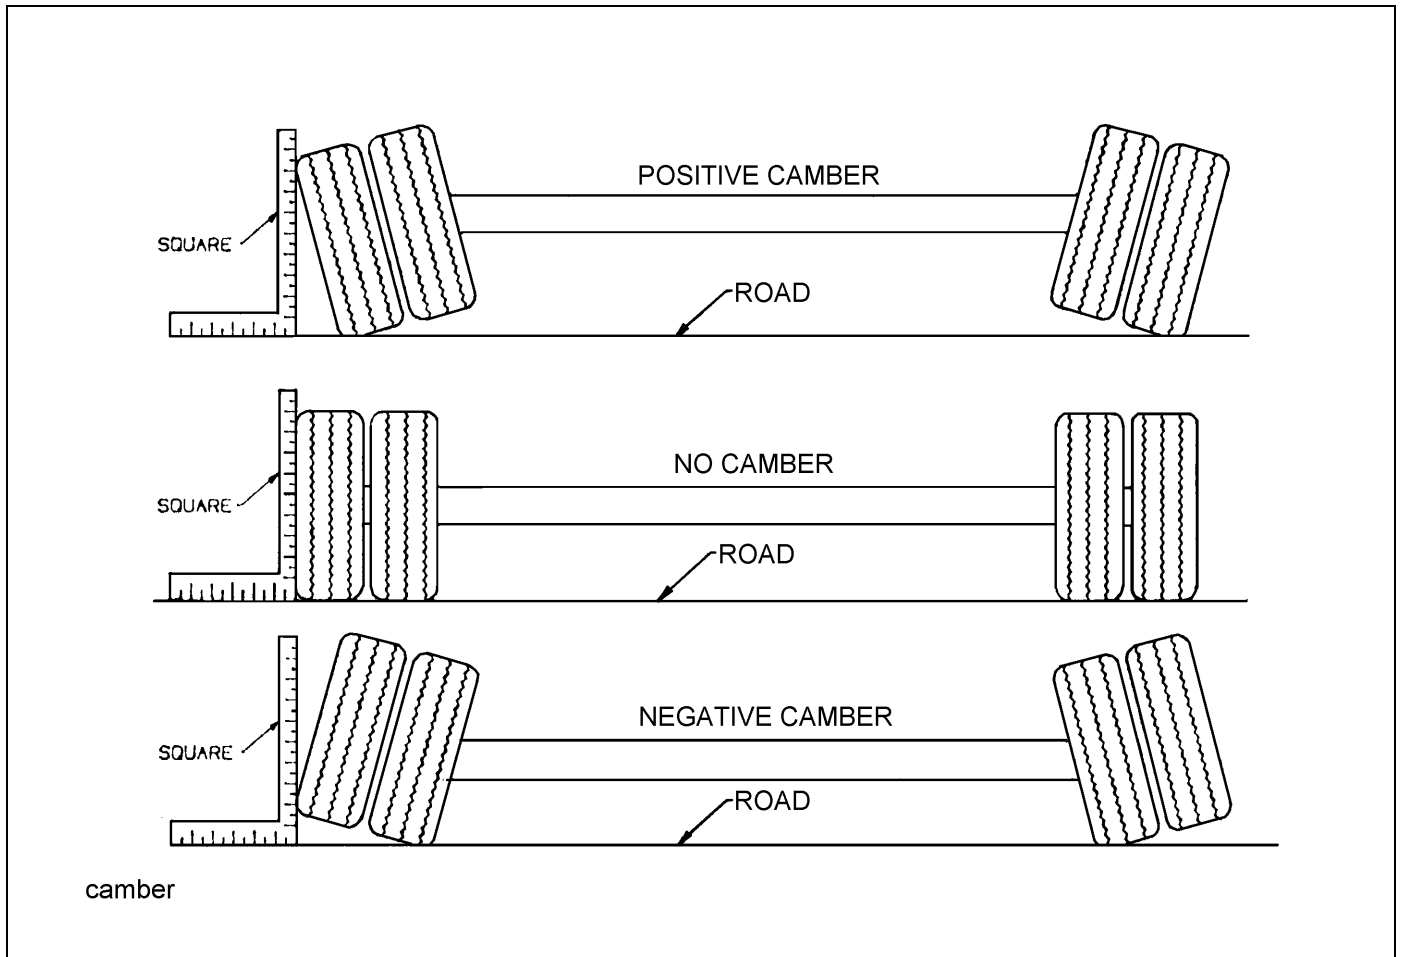

Figure 4-10: Examples of Camber
4. Follow the same procedures as in **steps 2 and 3**, except place the axle gauge above and below the axle. If gauge point gap is found, the axle has positive or negative camber. The trailer axle has no camber from the factory. If it is found to have positive or negative camber, axle replacement is necessary (See Figure 4-10 for examples of camber).